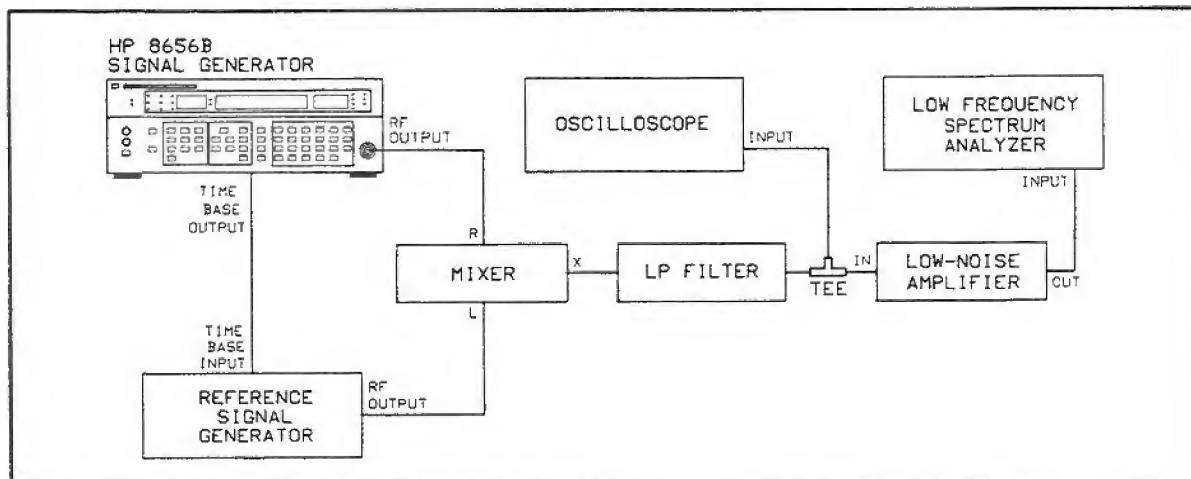

Figure 4-6. HP 8656B SSB Phase Noise Measurement Set-up
1. Connect the equipment as shown in figure 4-6.